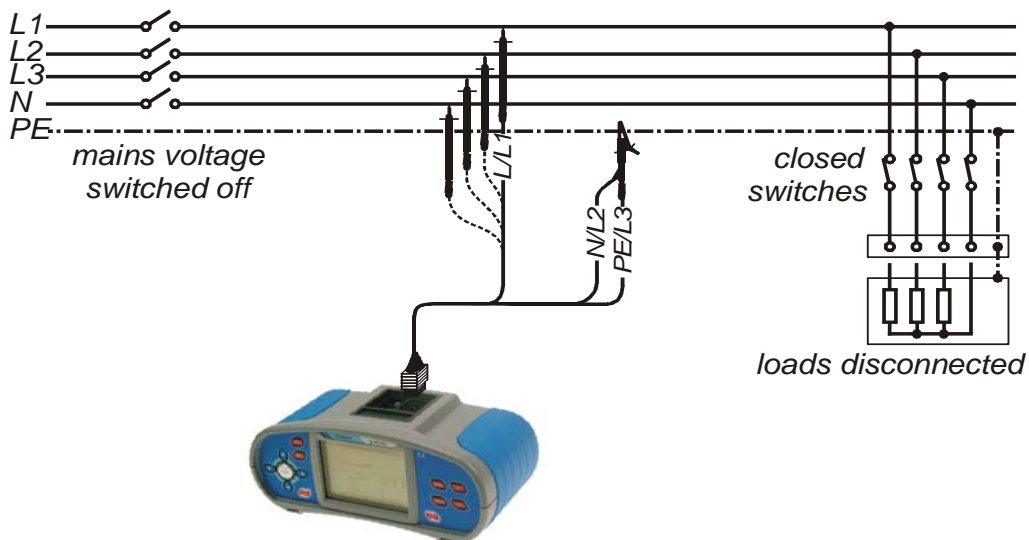

Figure 5.4: Connection of universal test cable for general insulation resistance measurement (TEST: L-PE)
- ❑ **Connect** test cable to the instrument and tested item (see figures 5.4 and 5.5).